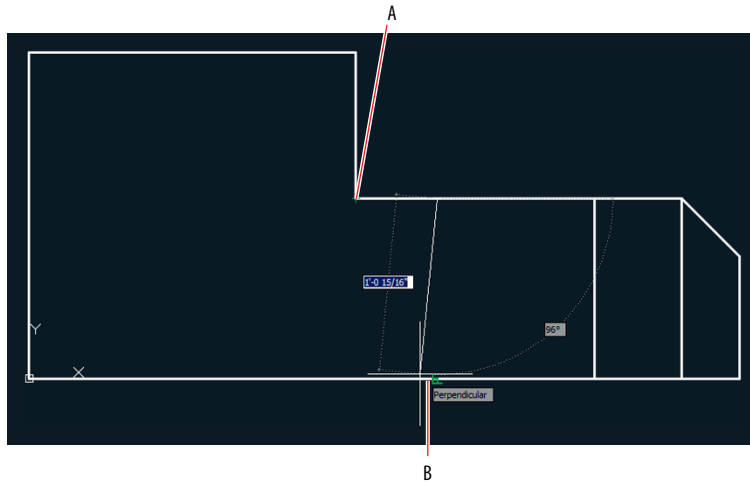

FIGURE 3.14 Drawing a line using the From object snap
9. Type **L**, and press Enter. Hold down Shift, right-click to open the Object Snap context menu, and choose Nearest. Object snaps invoked from the context menu override any running object snaps. Click point A, shown in Figure 3.14. Nearest ensures that the new line is attached somewhere along the edge of the horizontal line.
10. Move the cursor close to point B, as shown in Figure 3.14, and click when the perpendicular marker appears. Press Esc to end the **LINE** command.
2. Click point A shown in Figure 3.14. This is the point from which you will specify a displacement. Type **@6<0** (or **@150<0** for metric) to specify the displacement to the first point of the line, and press Enter.